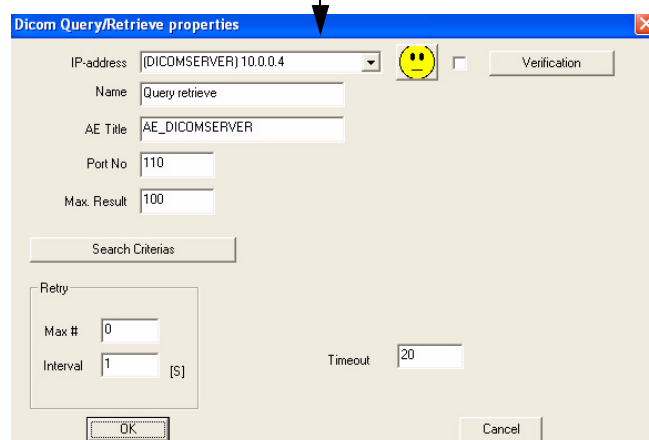

Figure 3-136 Select Query/Retrieve's Properties
- 4.) Select **Query Retrieve** from the *Name* pull-down menu - see Figure 3-136 on page 3-129.